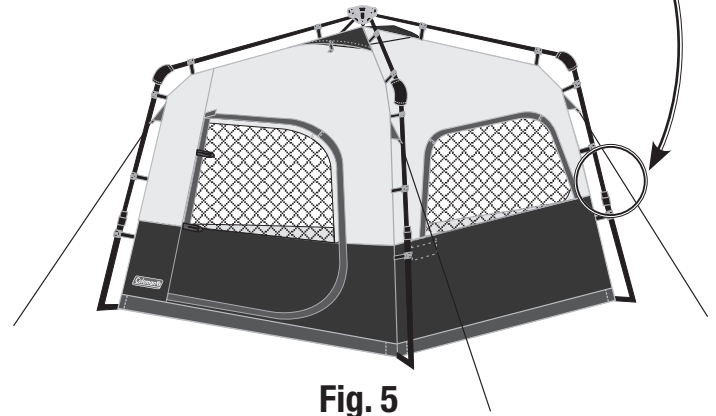

Fig. 5
- Extend each of the telescoping leg poles until they snap into place. The tent will raise as the leg poles are extended. (Fig. 5 and 6)